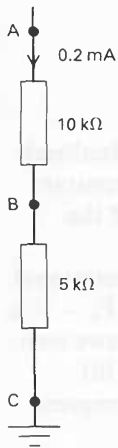

Figure I57
- 17(P)** Resistances of $10\text{ k}\Omega$ and $5\text{ k}\Omega$ are connected to form a potential divider as shown in figure I57. A current of 0.2 mA flows through the resistors to earth.